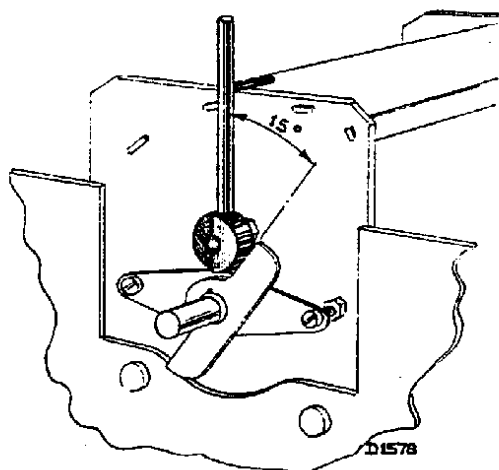

Fig. 4
1. Fit the 15° gauge (see fig. 4). Turn the variable condenser firmly against the gauge (smallest capacity).
12. Fit the 15° gauge (see fig. 4). Turn the variable condenser firmly against the gauge (smallest capacity).
16. Fit the 15° gauge (see fig. 4). Turn the variable condenser firmly against the gauge (smallest capacity).